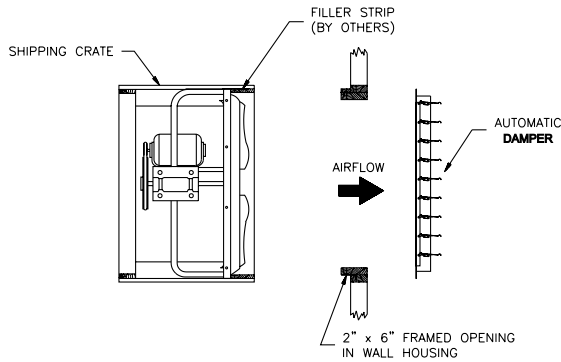

FIGURE 7.
12. To install to inside of building wall using the shipping crate as a mounting frame. (See Fig. 7).
14. Provide a square opening in the wall of the building equal to the inside "C" dimension of the fan crate. (See Fig.8). It is preferable to frame in the opening with 2 x 6 material. (See Fig. 7).